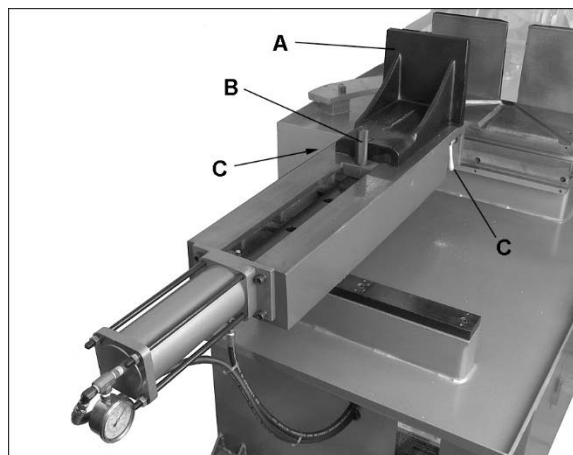

Figure 7-6: vise positioning
Refer to Figures 7-6 and 7-7.
To position floating jaw (A, Figure 7-6), pull out stop pin (B) and manually slide jaw into general position. Reinstall stop pin in appropriate hole. Use switch on control panel to move vise against workpiece.